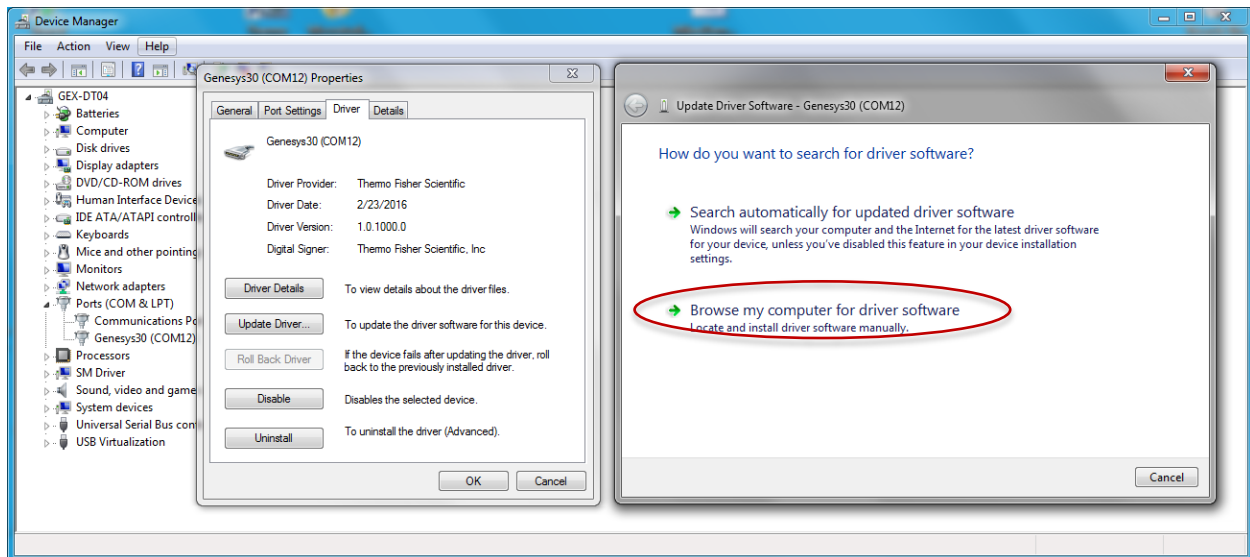

FIGURE 1
- i) See Figure 1 below for a visual description.